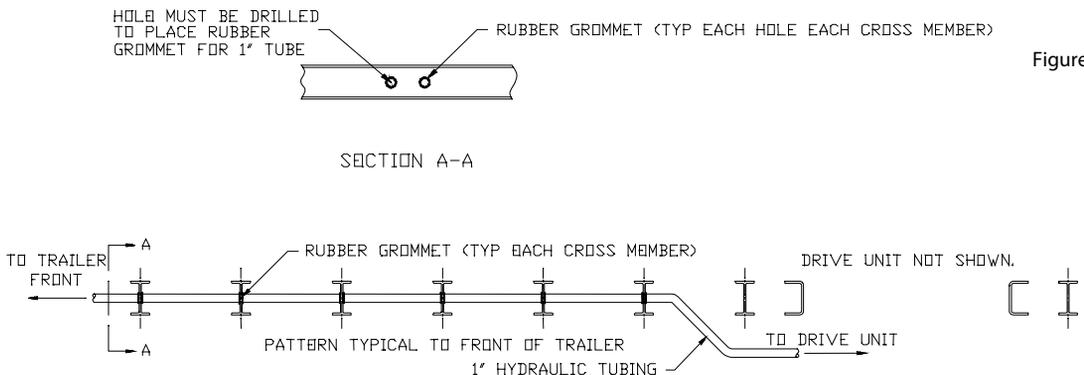

Figure 7
- 1) Routing the hydraulic tubing through the cross-members (Figure 7). Make two 1 3/8" holes per cross-member. The holes should be close to the sides of the trailer to maintain the structural integrity of the cross-members. Access holes must be cut or drilled through the nose of the trailer, in line with where the tubes will pass through cross-members. Patch the holes after the tubing is in place. The tubes may drop below the cross-members anywhere behind the landing gear and attach to the under side of cross-members.